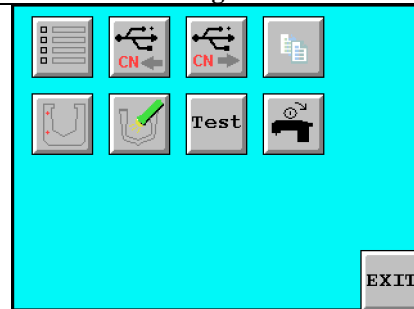

Fig.10
13.1.3 Press the button “SETTING” . The screen as fig. 10 will appear.